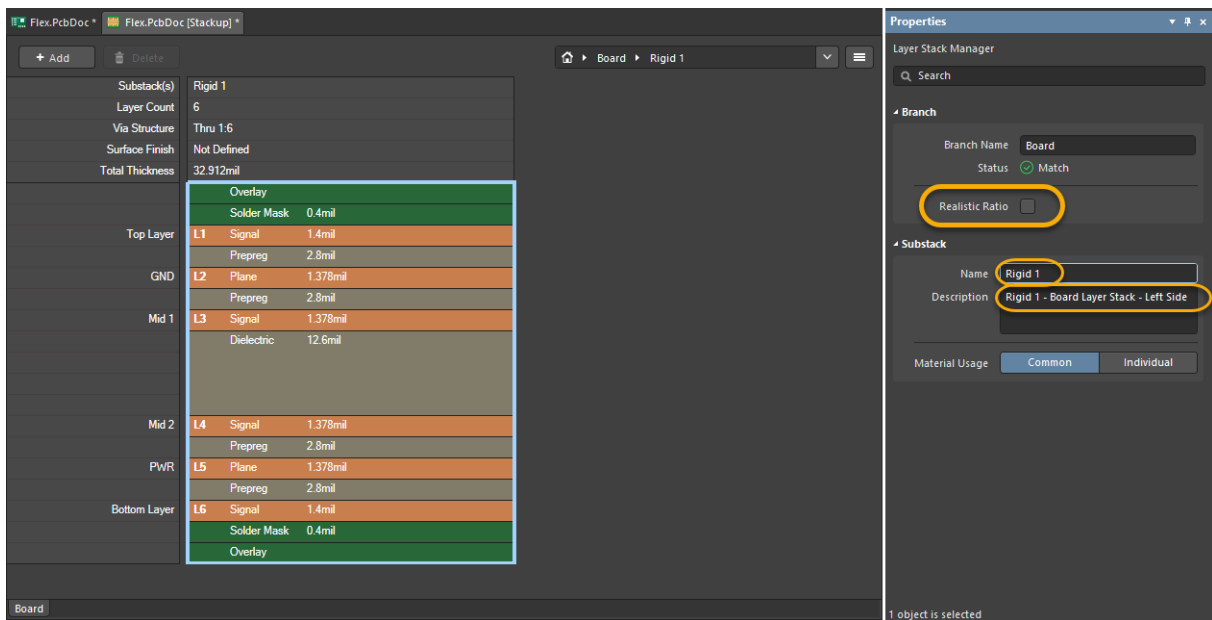

Figure 7. Change Layer Stack Properties in Properties Panel
15. With Stack1 as the active stackup, open the *Properties* panel (Figure 7) and